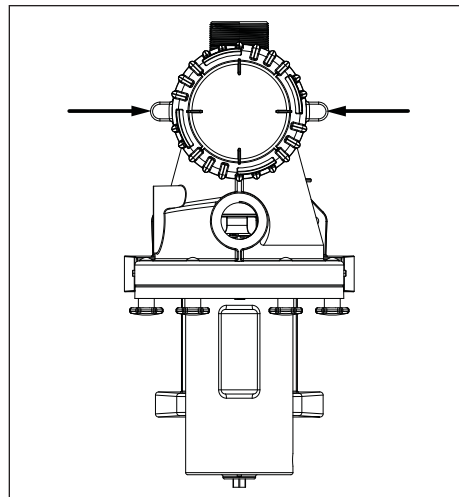

Figure 3 - Clamp rings
- Basket lid must be rotated and locked into position as indicated in Figure 3.
Release all pressure from filter, pump, and piping system; see the filter owner's manual. In a flooded suction system (water source higher than pump), pump will prime automatically when suction and discharge valves are opened. If pump is located above the normal pool water level remove ring and cover assembly and slowly fill basket and pump with water. Clean and inspect o-ring; reinstall on trap. Replace ring and cover assembly rotate clockwise to tighten cover (see Figure 3).
Clamp ring must engage with pump body. Push down and rotate until internal stops are felt. Properly aligned tabs shown above in Figure 3, assure lid is securely clamped.